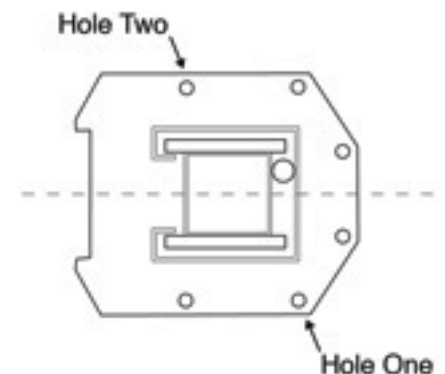

Figure 2
1. Starting with the power side column, drill the concrete with a $\frac{3}{4}$ concrete bit at least 5 inches deep. Do not ream the hole with the drill or allow the drill to wobble as this will enlarge the hole and reduce the holding power of the anchors making the lift unsafe. Start at Hole 1 as shown in Figure 2. Be careful not to move the column. Drop a bolt into Hole 1 (to help maintain alignment do not force the bolt down at this time). Check the column alignment to the 90° chalk line as indicated in Step 3 - Item 5 above. Drill a hole at hole 2 as shown in Figure 2. Drop a bolt into Hole 2, this should help prevent movement of the column. Drill the remaining 4 holes on this column.